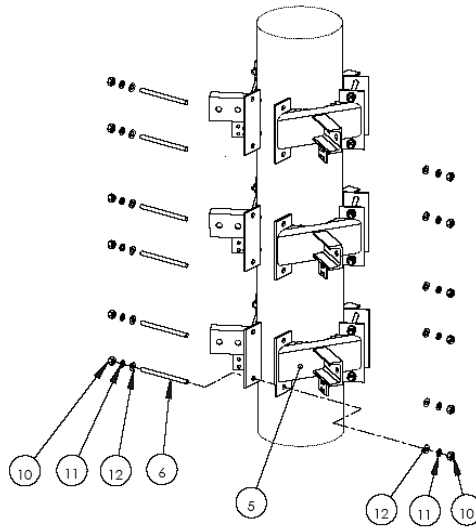

Figure C-14: Installing 3 Sector Clamp for Monopole
- 4 Use the remaining clamp sectors, bolts, washers, spring washers and nuts to install the clamps in the positions marked on the monopole as shown in Figure C-14.